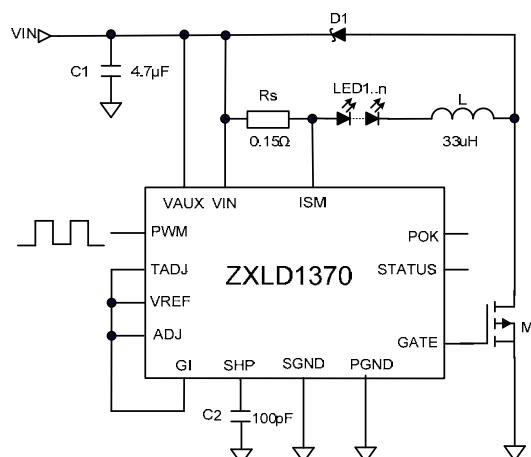

Figure 13. Buck configuration
a) Buck mode – the most simple buck circuit is shown in Figure 13
A basic ZXLD1370 application circuit is shown in Figure 13 and 15.